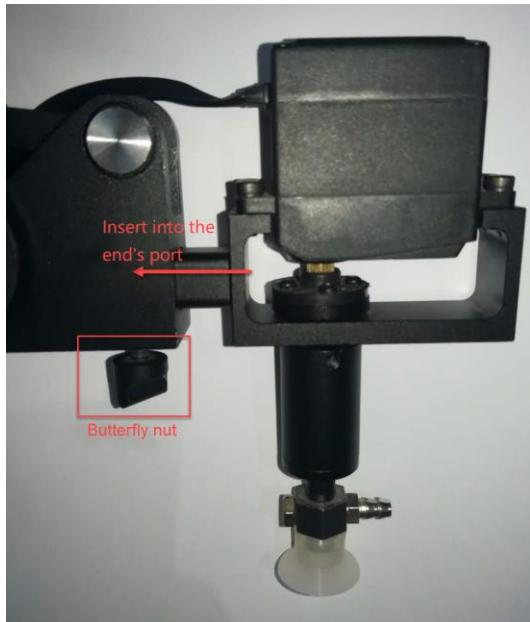

Figure 5.8 Install a suction cup kit
**Step 2** Insert a suction cup kit into the end's port, and fasten it with clamp fixing screw, as shown in Figure 5.8.